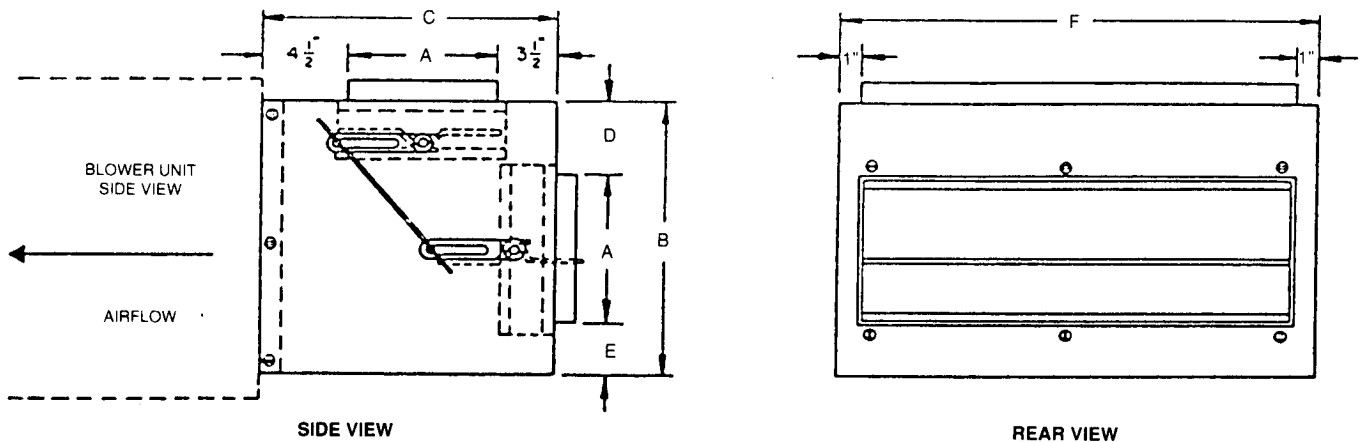

Fig. 11 - Mixing Box Dimensions
## MIXING BOX INSTALLATION (Fig. 11)
*Note:* See dimensions **Table 1** and **Fig. 11**. Inspect desired installation location. Determine if space provides sufficient work and safety clearances. If determined that ample space is available in work area, make all sheet metal connections and attachments prior to moving completed assembly to duct connection site.